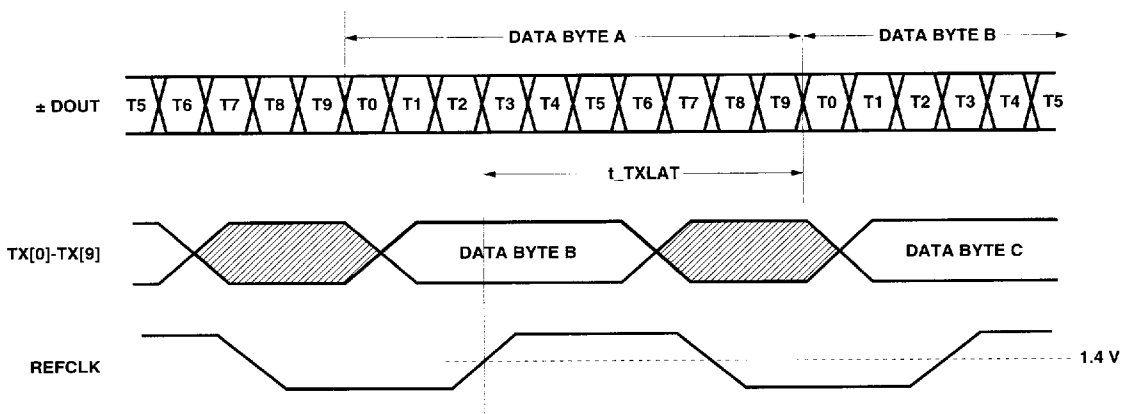

Figure 4. Transmitter Latency.
The OUTPUT DRIVERS present the 10-bit parallel recovered data byte properly aligned to the receive byte clocks (RBC1/RBC0), as shown in Figure 4. These output data buffers provide TTL compatible signals.
1. The transmitter latency, as shown in Figure 4, is defined as the time between the latching in of the parallel data word (as triggered by the rising edge of the transmit byte clock, REFCLK) and the transmission of the first serial bit of that parallel word (defined by the rising edge of the first bit transmitted).